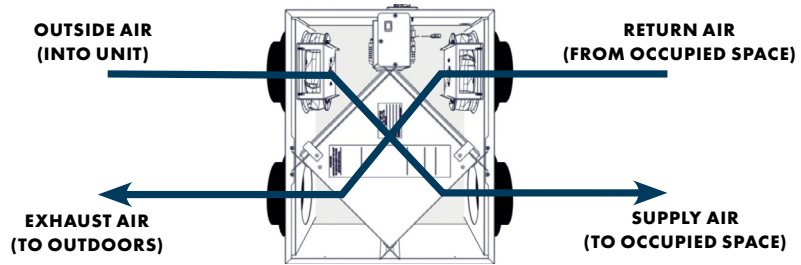

FIGURE 1.1.0 AIRSTREAM ILLUSTRATION, CONFIGURATION A
- Fresh Supply Air (SA): This duct will deliver fresh, conditioned air from the ERV to a desired location in the residence. This duct run may end in a floor or wall grate with an area of at least 28 square inches. Alternatively, the supply air duct may be connected directly into the return air duct or the supply air duct for the main heating and cooling system. When connecting to the main return air duct, it must be at least 3' from the return plenum to minimize suction from the furnace blower.
- Indoor Return Air (RA): This duct will collect indoor air from return grilles and run it through the ERV for energy recovery before being exhausted to the outdoors.
- Outdoor Exhaust Air (EA): This duct exhausts stale indoor air to the outdoors after being run through the energy recovery core. This duct will normally end at an exhaust cap located on an exterior wall of a residence.
- Airstreams may be swapped during installation. This is an acceptable installation that does not effect unit performance or warranty, see Figure 2.2.0. Mirrored units may require unit to be rotated 180 degrees during installation and airflow configuration changed during setup, see Figure 2.2.0. If paired with ERVC+, airstream configuration can be selected digitally to match configuration A or B, refer to the sticker on the ERV. See Figure 1.1.0 and 1.1.1 for more information.